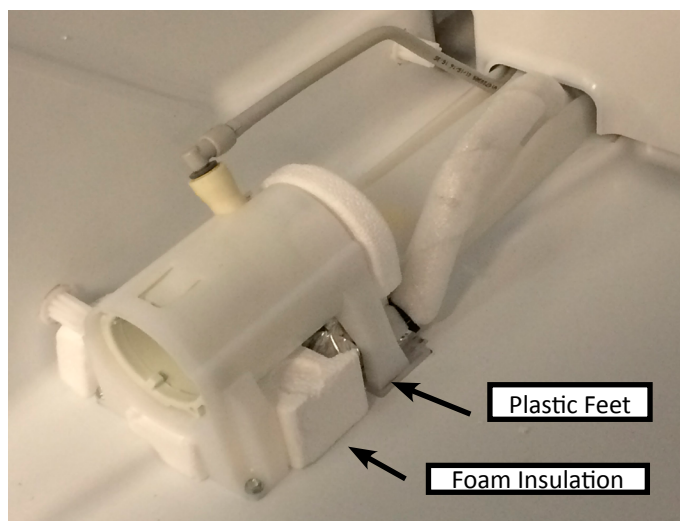

FIGURE 17: Water Filter Insulation and Feet
2. Remove the two (2) 1/4" screws at the front of the Water Filter Bracket base.
5. When reinstalling the Water Filter Bracket, ensure the Under Filter Foam Insulation is in place, and the two plastic feet on the rear of the Bracket are inserted into the plastic recess in the base of the refrigerator liner (FIGURE 17).